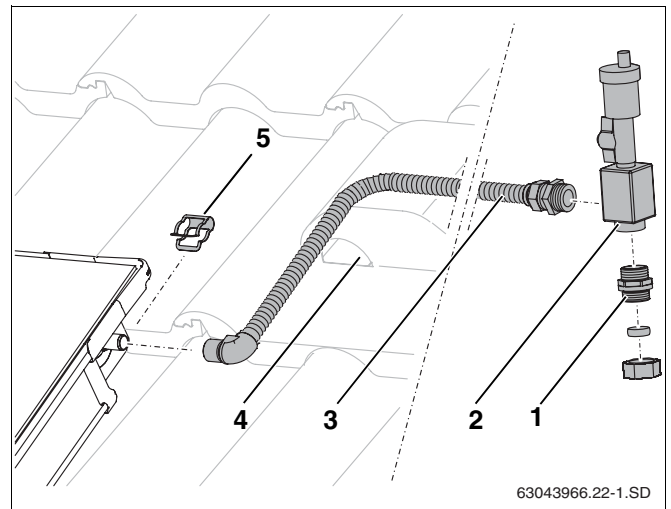

Fig. 56 Fitting the air vent valve under the roof
- ▶ Push connection pipe (Fig. 56, **Item 3**) onto the flow connection on the collector array and fix in place using bracket (Fig. 56, **Item 5**).
- ▶ Feed connection pipe together with the sensor cable through the ventilation tile (Fig. 56, **Item 4**) and through the roof insulation.
- ▶ Firmly screw connection pipe (Fig. 56, **Item 3**) and double threaded fitting (Fig. 56, **Item 1**) into air pot (O-ring gasket).
- ▶ Connect header pipe to double threaded fitting with compression fitting (Fig. 56, **Item 1**).